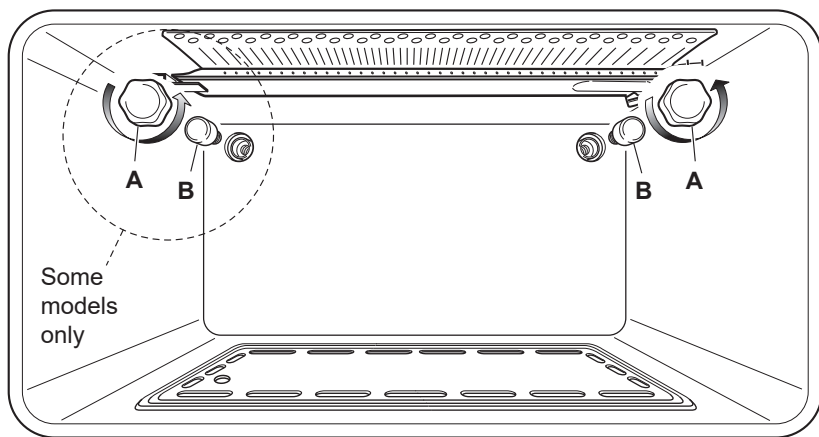

Fig. 4.8a
- Remove the protective cover "A" (fig. 4.8a - 4.8b).